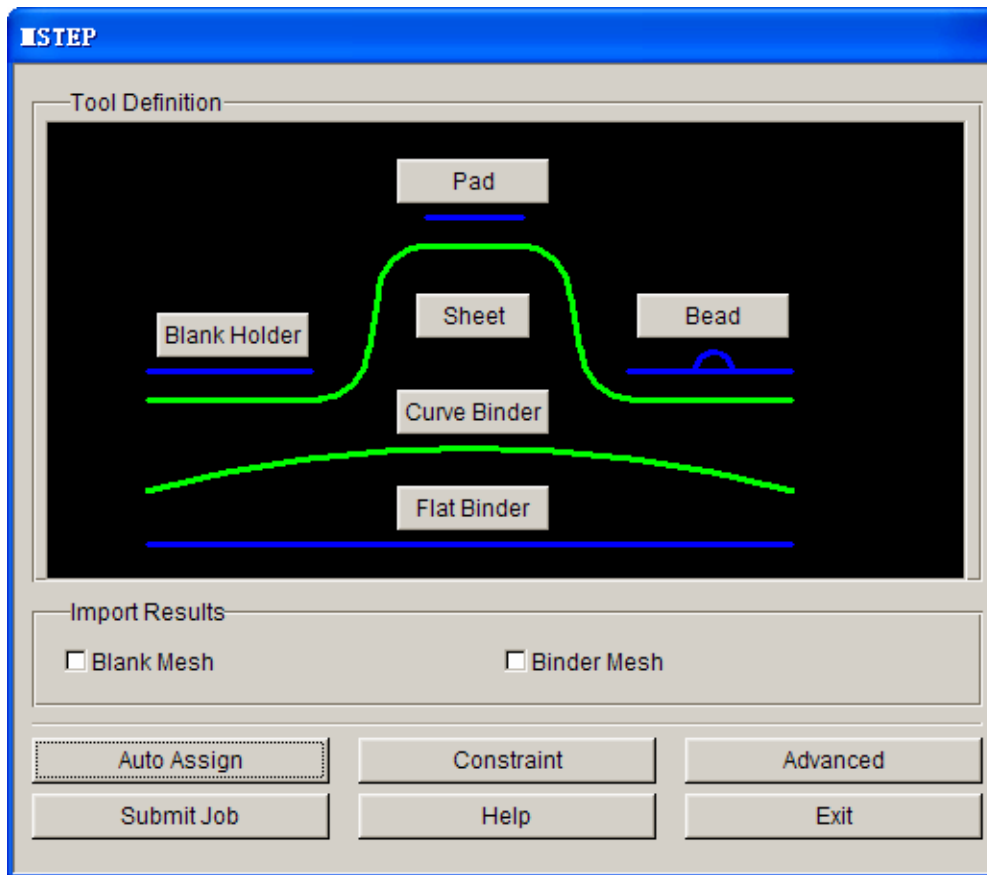

Figure 1.34: MSTEP GUI after Curve Binder definition
- 14) Click OK button to return to MSTEP dialogue box. Contour line of target surface in the dialogue box is changed from red to green, which means the tool is already defined. See figure 1.34.